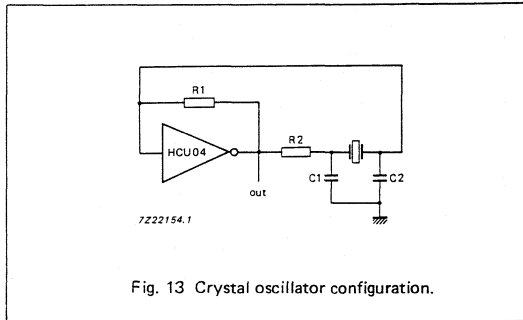

Fig. 13 Crystal oscillator configuration.
- In crystal oscillator designs (see Fig. 13)
Note to Fig. 13